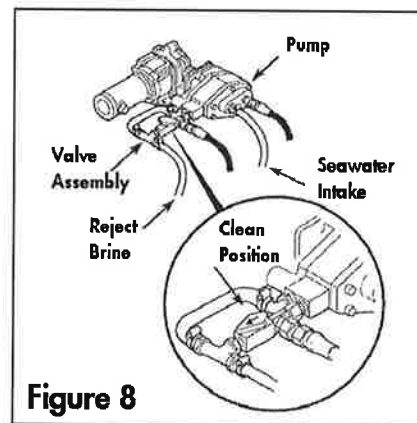

Figure 8
1. Turn the Clean/Run Valve lever on the pump to its "Clean" position (see **Figure 8**).
1. Turn the clean/run valve lever on the pump to its "clean" position (see **Figure 8**).